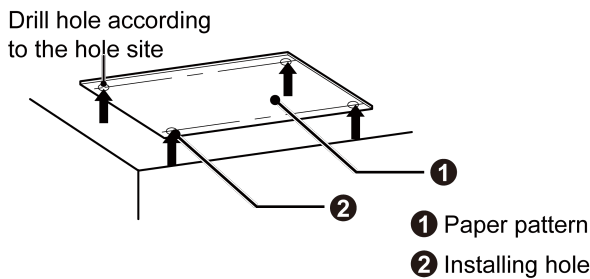
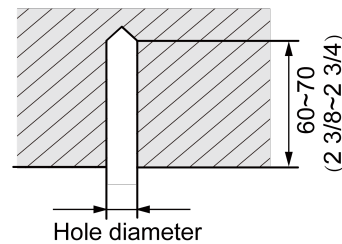

Fig.4.9
Fig.4.10
1) Stick the installation template at the installation position flatly; drill 4 holes at the installation position basing on the installation template. As shown in Fig.4.9. Please refer to the diameter of expansion bolt for the diameter of hole with depth of 60-70mm (2-3/8~2-3/4inch). As shown in Fig.4.10.